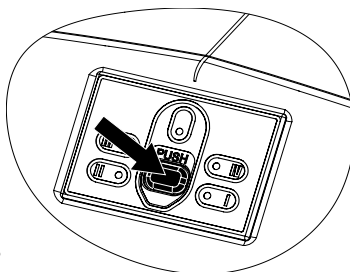

Fig. 13
- On the front panel of your RO-206S (Fig. 13), flash the PUSH button 3 times to start the flushing mode. At this, 5 audible signals are sounded, the cartridge life indicator lights go out and the flushing mode of the pre-treatment unit starts and lasts 30 minutes.